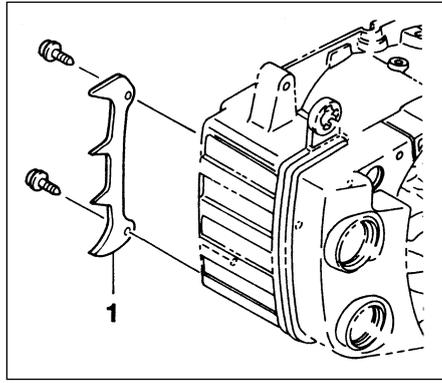

Fig.1-1B
* Install the spiked bumper (1) (If so equipped) to the unit with the two screws. (Fig.1-1B)